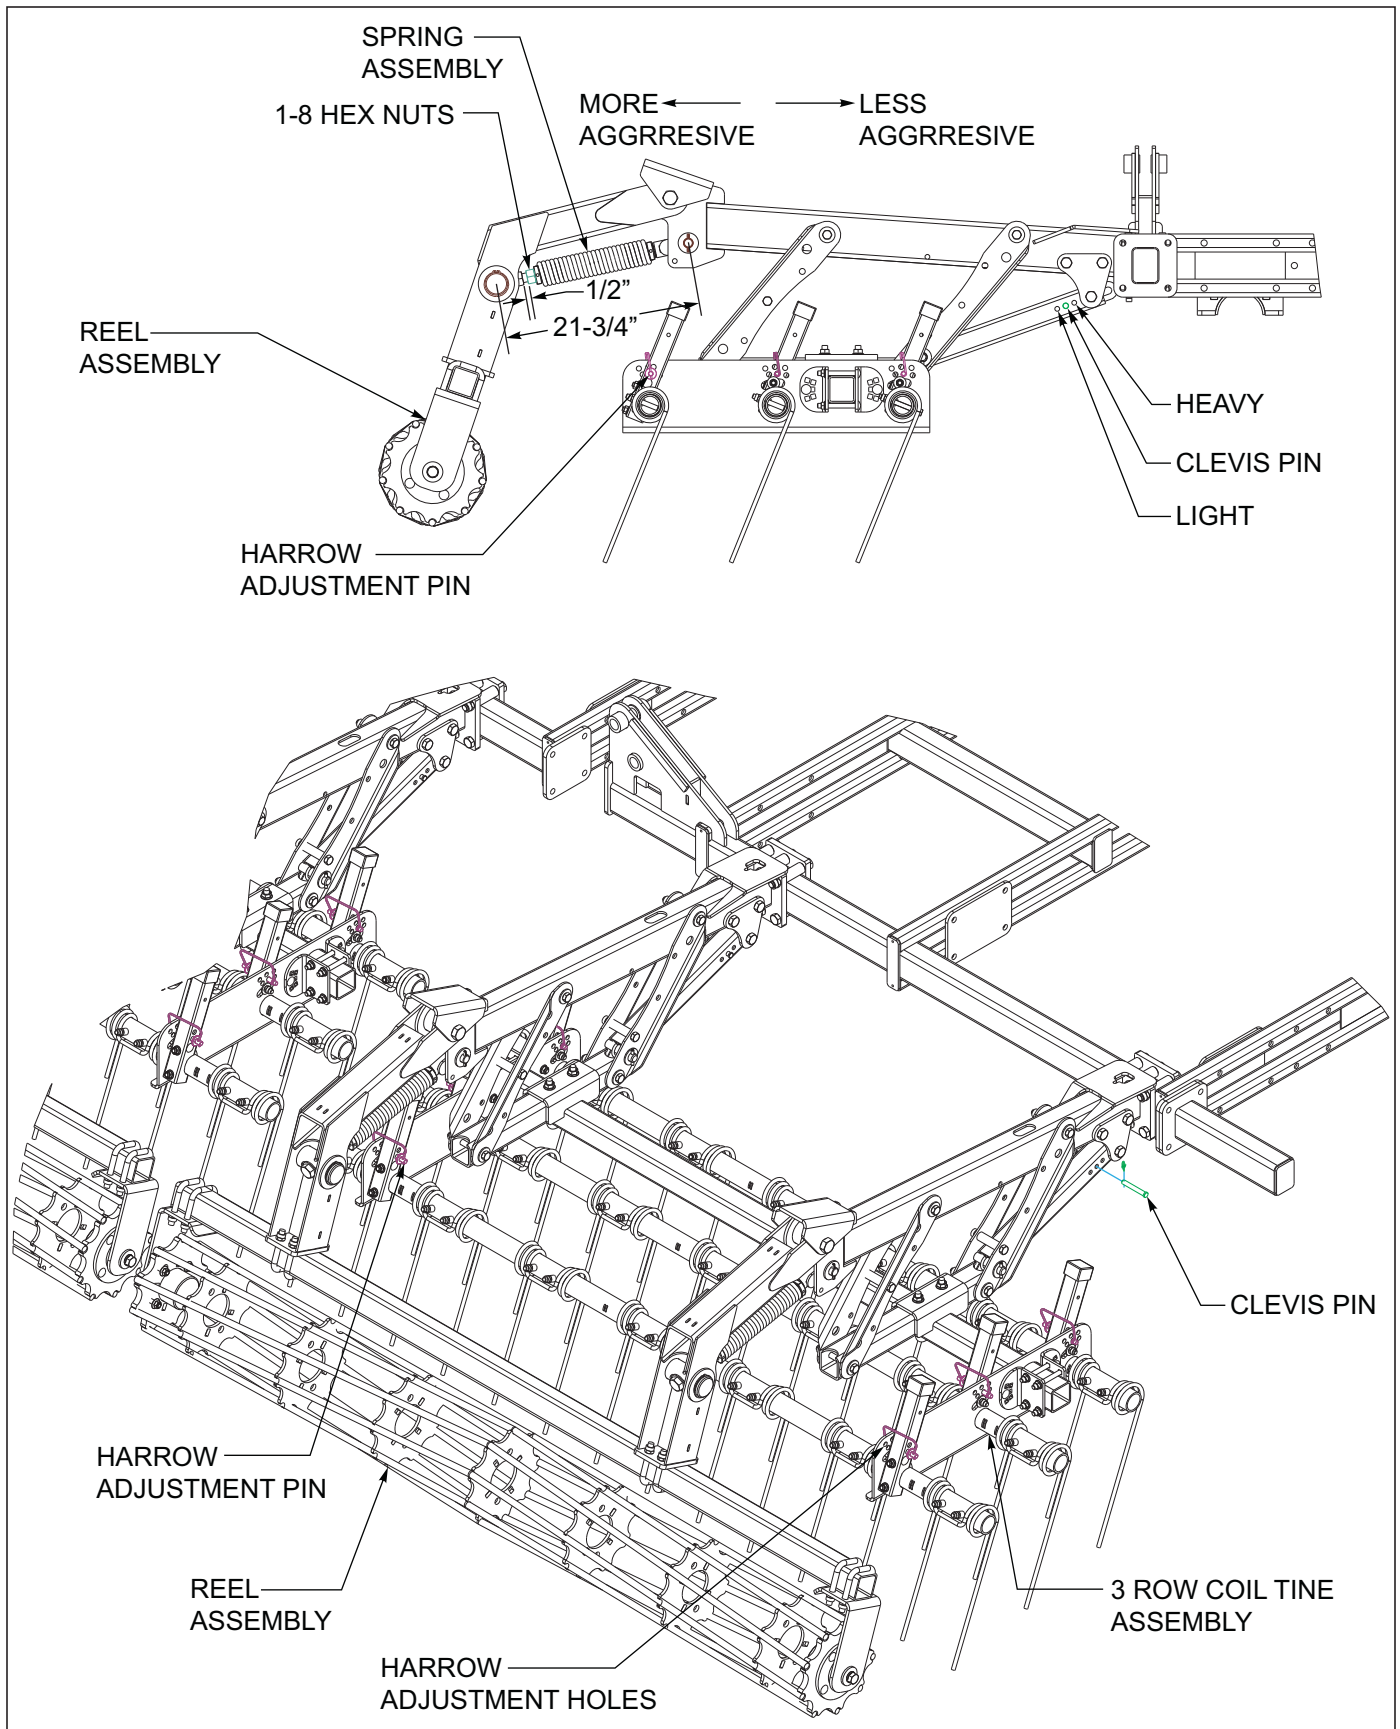

Figure 4-13: 3 Row Coil Tine and Reel Adjustments
3. In general tine harrows have better capabilities for handling more residue and wetter conditions. When operating the coil tine harrow, a more vertical tine tooth angle will make the harrow more aggressive. A lower/flatter tine angle will make the harrow less aggressive but will handle more residue and wetter conditions. To change the tine angle, raise the harrow off the ground. Remove the harrow pin from both angle adjustment tubes per tine gang bar tube See Figure 4-13. Rotate the angle adjustment tubes forward (less aggressive) or rearward (more aggressive) and reinstall both spring clip pins. Repeat the tine adjustment for each tine gang bar tube and harrow section.
4. Each coil tine harrow may be adjusted for spring pressure as well See Figure 4-13. Raise the tine harrow off the ground. Remove the clevis pin from the spring tube and install in a heavy or light setting as needed. **Excessive spring pressure and tine angle can overload harrow spring.**
5. To adjust the reel height, loosen the locking hex nut against the threaded spring end See Figure 4-13.